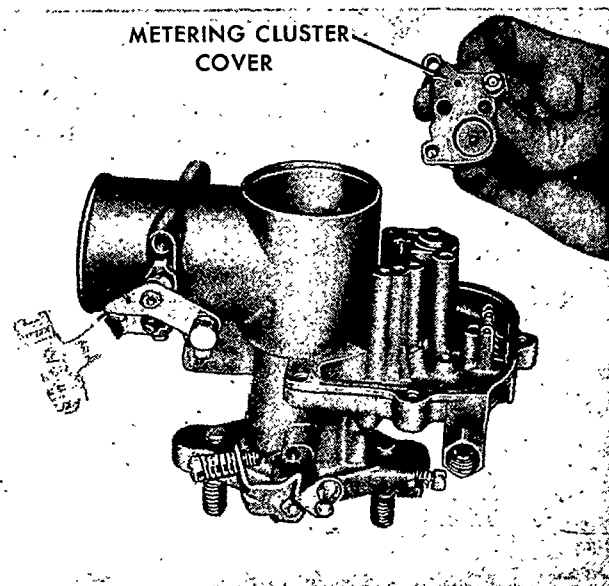

Figure 10
6. Remove the three screws retaining the metering cluster cover and remove the cover and gasket, Figure 10.